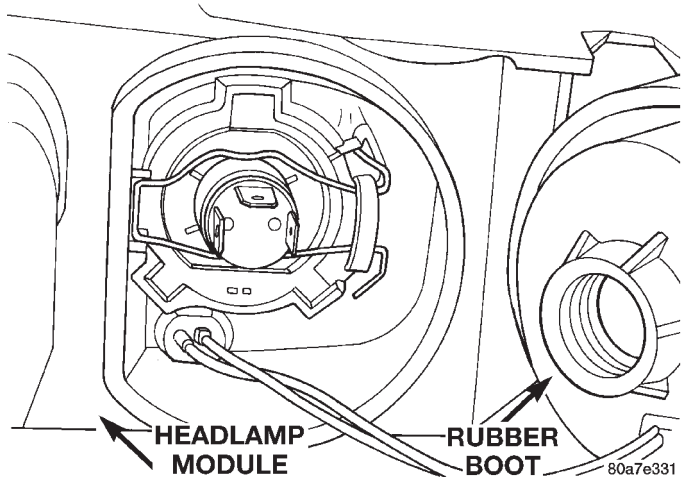

Fig. 1 Rubber Boot Seal
- (1) Release hood latch and open hood.
- (2) Remove screws holding headlamp module to radiator closure panel.
- (3) Separate headlamp module from radiator closure panel.
- (4) Disengage wire connector from back of headlamp bulb.
- (5) Remove rubber boot seal (Fig. 1).